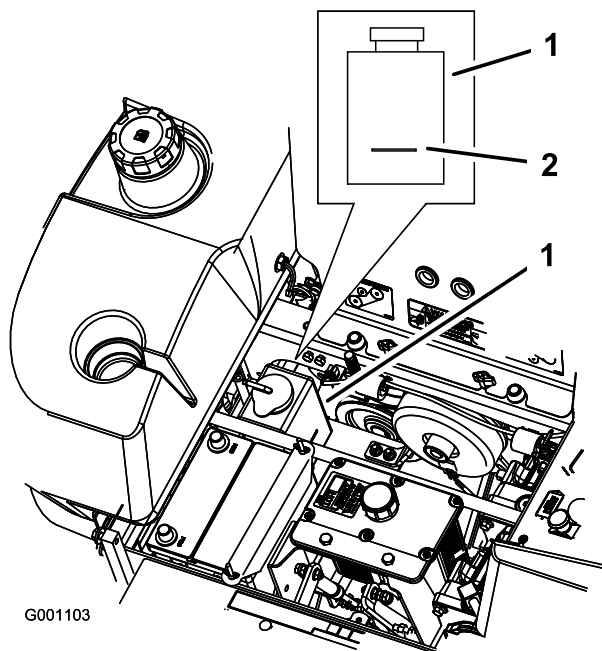

Figure 64
3. With the engine cool, check the overflow bottle level. The fluid needs to be up to the bump on the outside of the overflow bottle (Figure 64).
4. If the coolant level is low, add a 50/50 mix of extended life antifreeze and water to the overflow bottle (Figure 64).
5. Add the 50/50 coolant mix to the overflow bottle and fill it to the indicator line on the bottle (Figure 64).